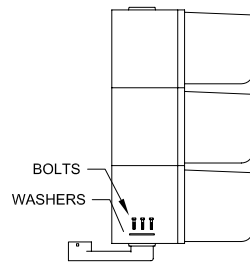

Figure 1
1. Mount lower arm to bottom of signal. Position arm so that tube boss will be centered in back of signal. (Figure 1). Using hardware kit without rubber gasket, secure arm to signal.